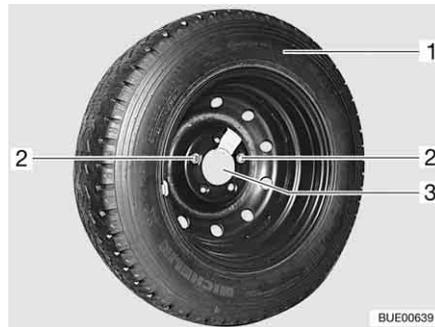

Fig. 309 Spare wheel support in the rear garage
- Loosen and remove both fixing screws (Fig. 309,2) with the on-board tool set.
- Remove the spare wheel (Fig. 309,1) from the support (Fig. 309,3).